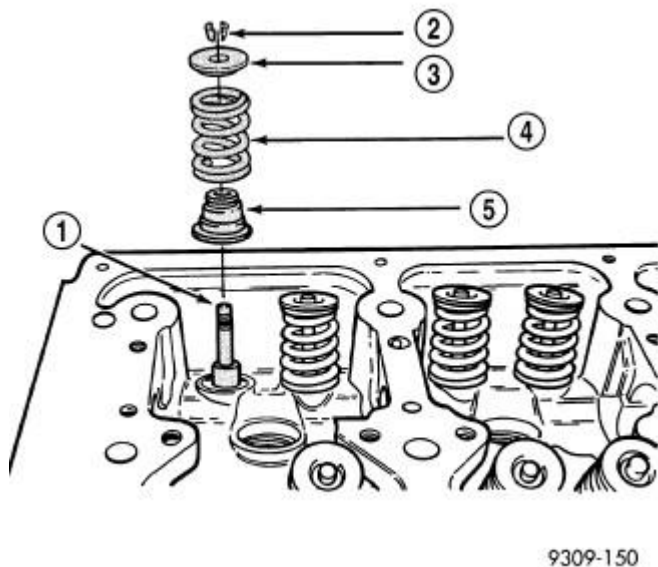

Fig. 295: Valve Seal & Spring-Installation
3. Install valve seal/spring seat assembly over valve guides on all valve stem. Refer to **Fig. 295**. Ensure that the garter spring is intact around the top of the rubber seal.